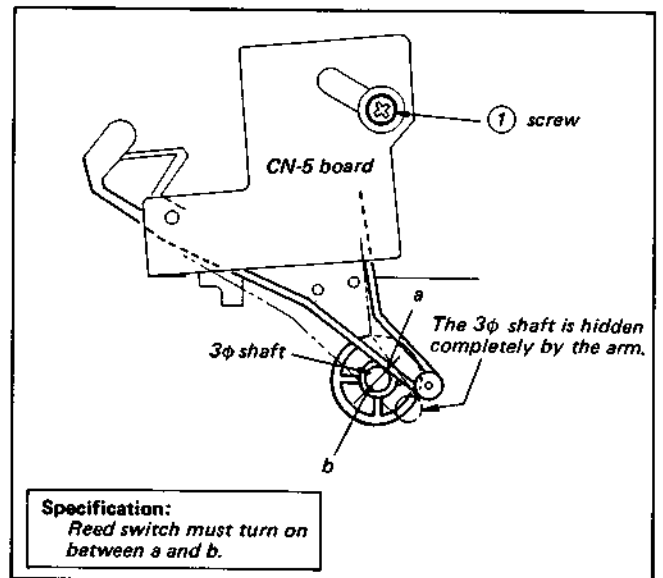

Fig. 3-35. Position adjustment of slack sensor operation
2. Loosen screw (1) and adjust the CN-5 board position to satisfy the specification shown in Fig. 3-35.